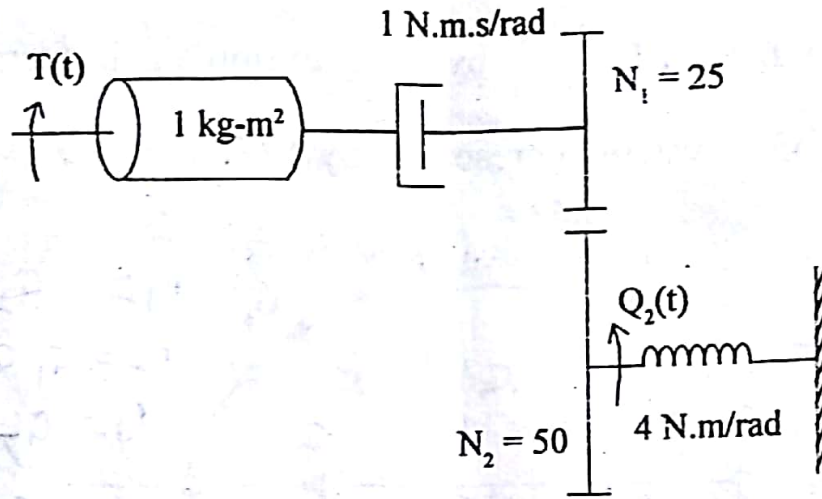

Fig. 2(b)
- (b) Find transfer function  $\frac{Q_2(s)}{T(s)}$  for the rotational mechanical system shown in Fig. 2(b). 8